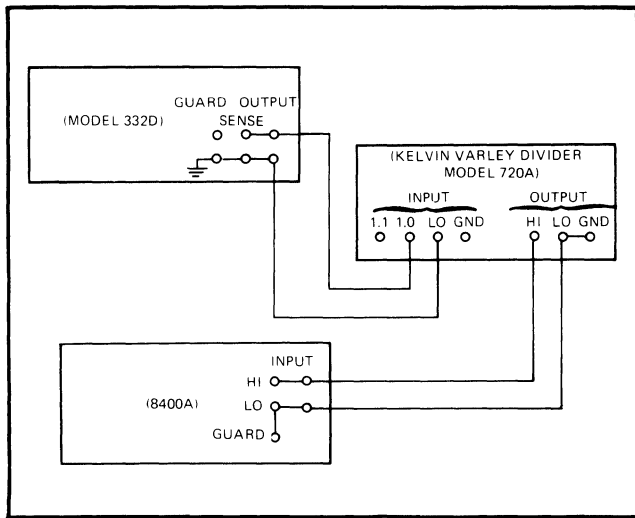

Figure 4-7. READOUT CHECK EQUIPMENT CONNECTION
- c. Connect equipment as shown in Figure 4-7.